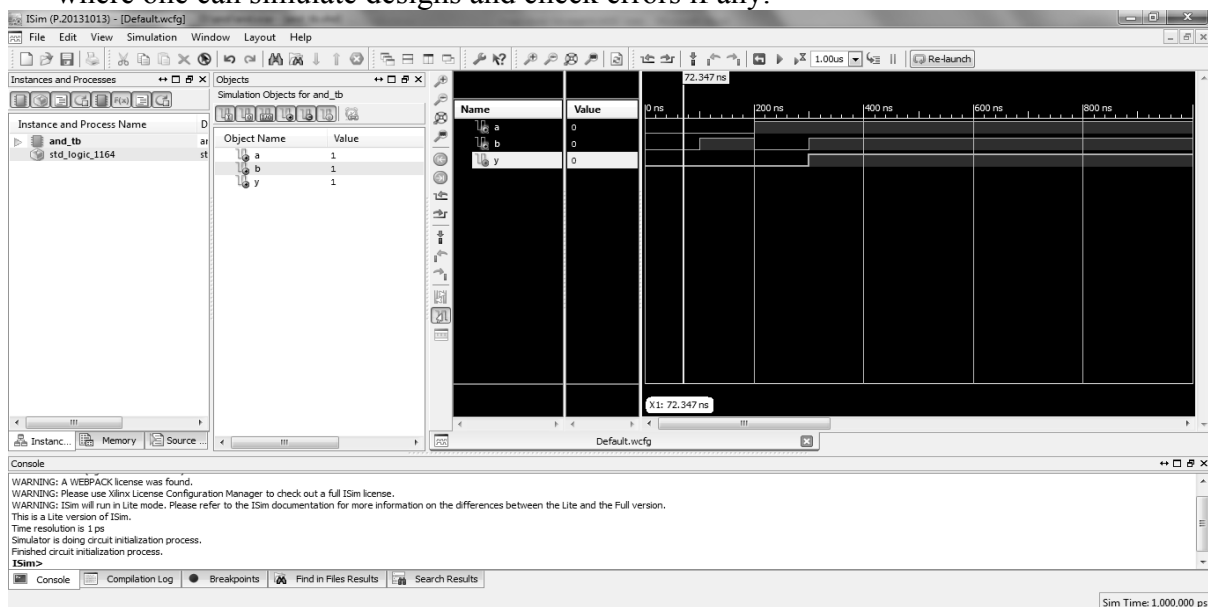

Fig 4.17: Simulation Output
9. ISim simulator window will open with your simulation executed, as shown in Fig. 4.17 where one can simulate designs and check errors if any.